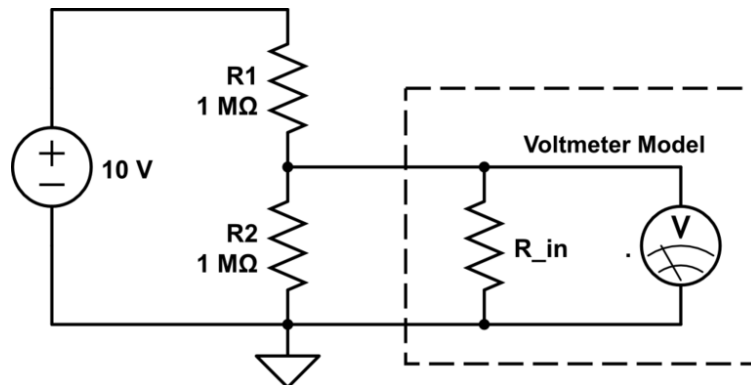

Figure 2: Voltage divider with the voltmeter as a load
- Build the circuit in figure 2 using one of your multimeters as the load (connected across  $R_2$  in voltage mode).